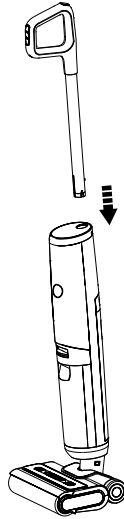

Fig 1
- 1.To install: Firmly push the handle into the handle slot until you hear a 'click' sound (Fig 1).